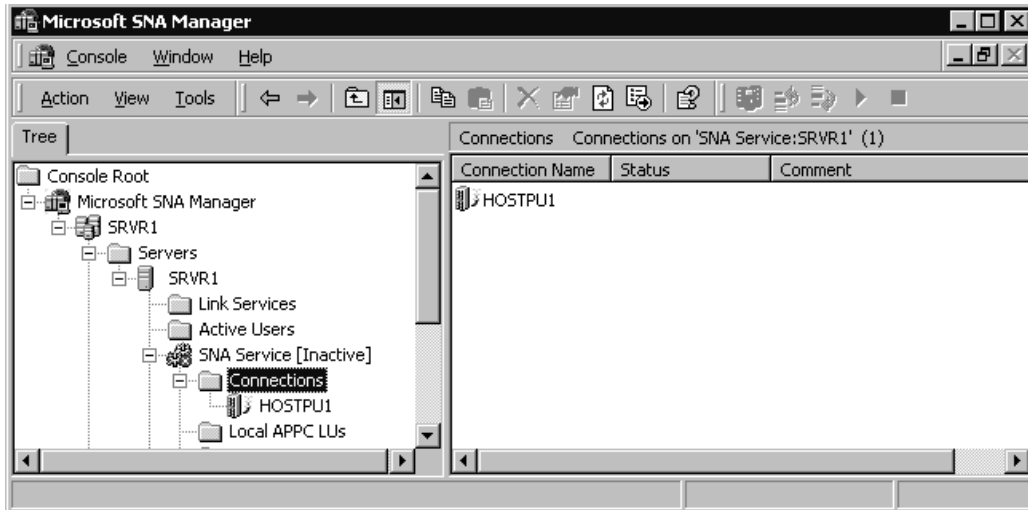

Figure 8-18. Configured Connection
7. When you return to the Microsoft SNA Manager, the new connection will be appear in the **Connections** folder (See Figure 8-18).